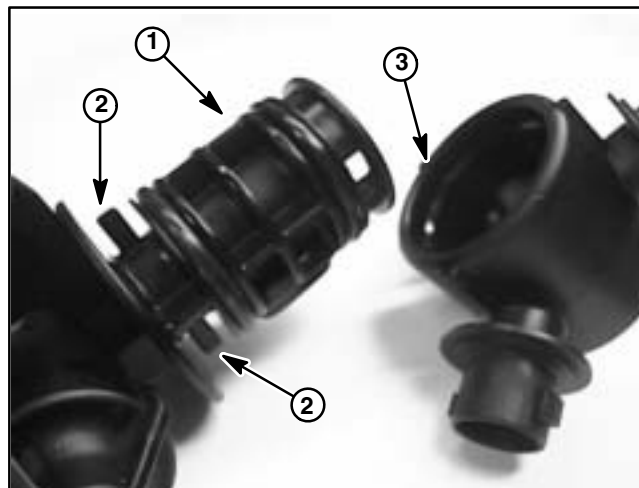

Figure 38
A. The turret (item 8) end with slightly larger bore and detent grooves needs to be orientated toward detent posts on body (item 4) (Fig. 38).
B. Make sure to align notch on plug (item 10) with groove in body (item 4) as plug is installed.
C. Install e-clip (item 5) into body to secure assembly.